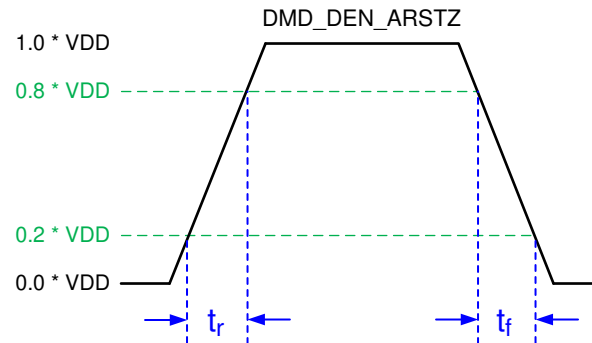

Figure 2. LPSDR Input Rise and Fall Slew Rate
(1) Specification is for DMD_DEN_ARSTZ pin. Refer to LPSDR input rise and fall slew rate in Figure 2.
(2) Specification is for SubLVDS receiver time only and does not take into account commanding and latency after commanding.